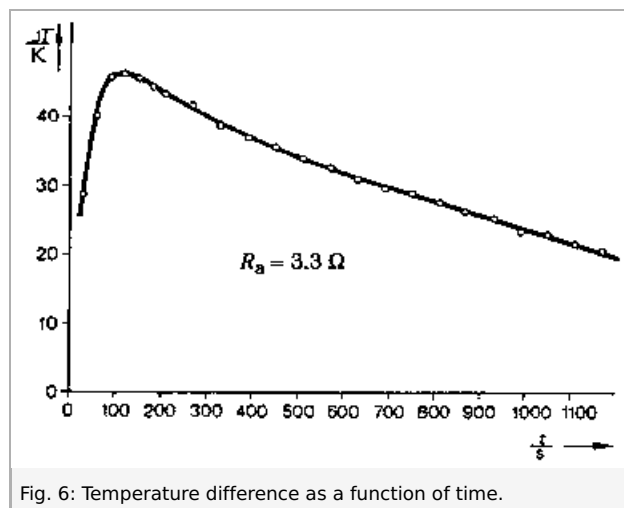

Fig. 6: Temperature difference as a function of time.
3. From Fig. 6 we determine the slope of the (descending) curve at one point by drawing a tangent or by linear regression.